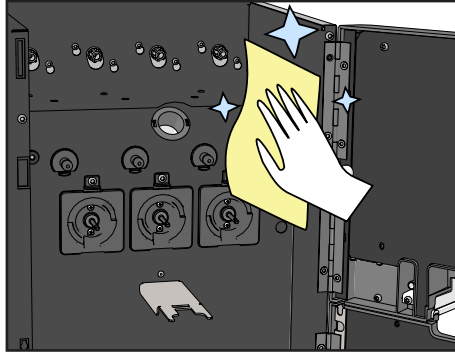

Figure 43.
15. Clean the inside of the machine with a slightly damp cloth (see Figure 43).